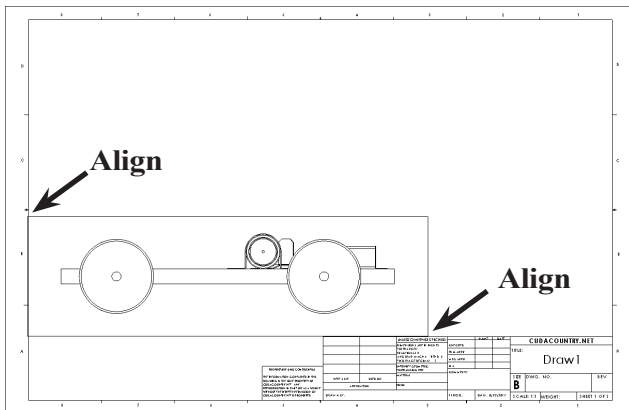

Fig. 2
Step 5. Move the cursor into the graphic area and click to place the right side view as shown in **Fig. 2**. Align the left edge of the preview with the left border line and align the bottom edge with the top of the title block.